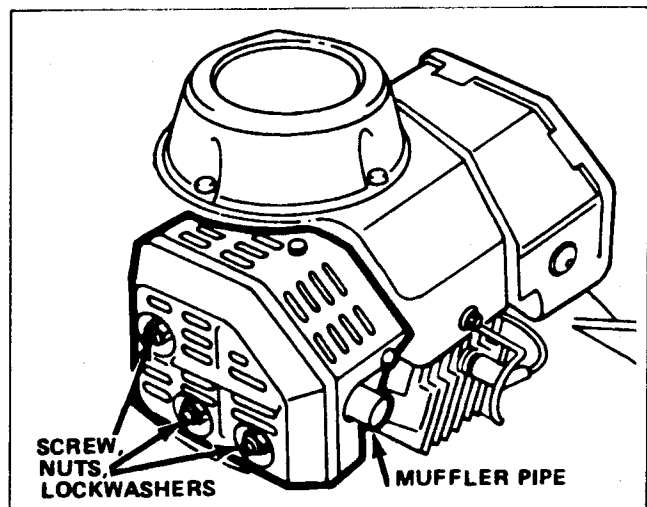

Figure 7
2. Remove the screw, two nuts, and lock washers. See Figure 7. Slide the muffler off mounting pins.